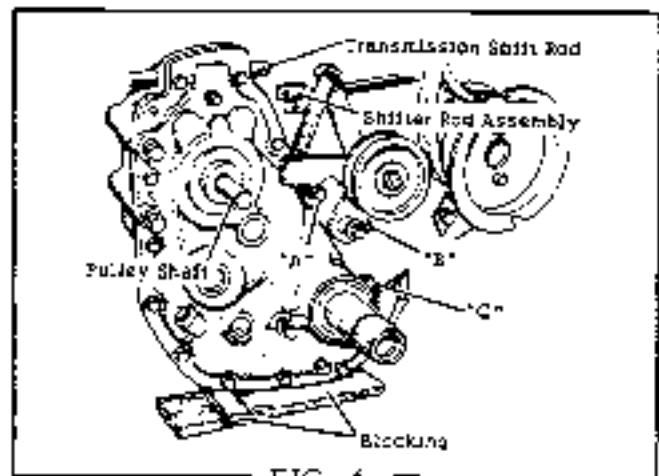

FIG. 6
10. Disconnect the shifter rod assembly from the transmission shift rod as shown in Fig. 6.
Add blocking to support the weight of the transmission at points shown in Fig. 6.